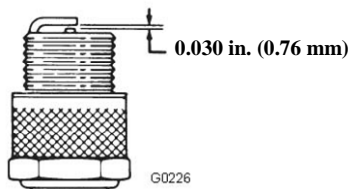

FIGURE 23
- e) Set the gap on the plug to 0.030 in. (0.76 mm) (Figure 23).